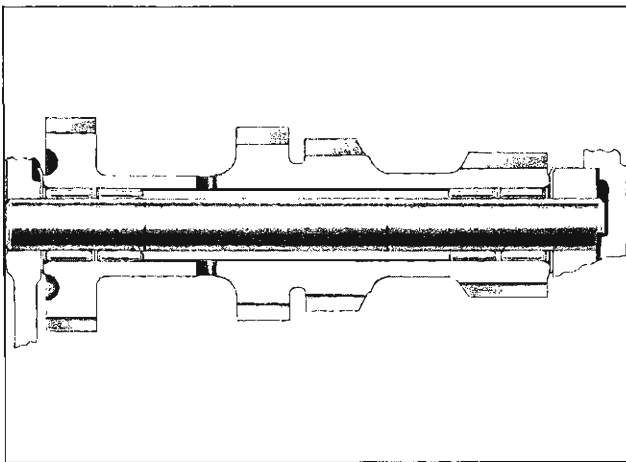

Fig. 20M—Cross-Section of Countergear Assembly
2. Using heavy grease to retain the rollers, install 20 rollers in either end of the countergear, two .050" spacers, 20 more rollers, then one .050" spacer. Install in the other end of the countergear, 20 rollers, two .050" spacers, 20 more rollers, and another .050" spacer (fig. 20M).